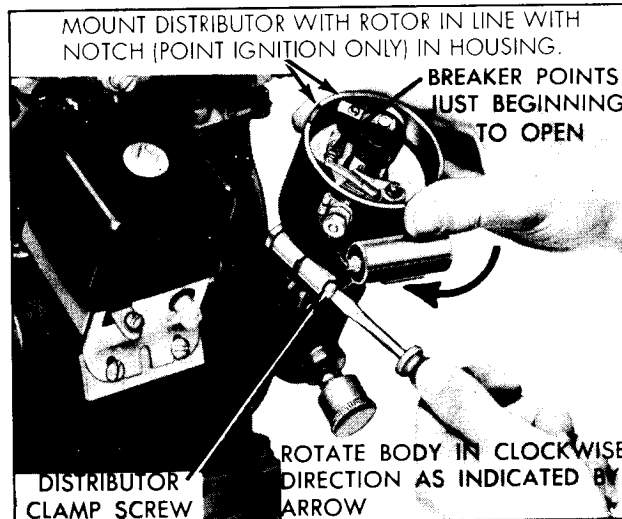

Fig. 16, DISTRIBUTOR TIMING
When a *direct mounted generator* is provided, the distributor is mounted to the end of the generator frame as illustrated in Fig. 16. On engines with *belt driven generator* or *flywheel alternator*, the distributor is
1. Align rotor with center of notch (point ignition only) in distributor housing (location of No.1 terminal tower). Mount unit in place so that the notch is in an approximate 10 o'clock position. See Fig. 16. This applies to either distributor mounting - to the end of generator frame or adapter housing on gear cover.
4. With the distributor clamp screw loose, see Fig. 16, turn the distributor body slightly in a counter-clockwise direction until the breaker points are firmly closed. Then turn the distributor body in a clockwise direction until the breaker points are just beginning to open. At this point a slight resistance can be felt as the breaker point cam strikes the breaker point arm.